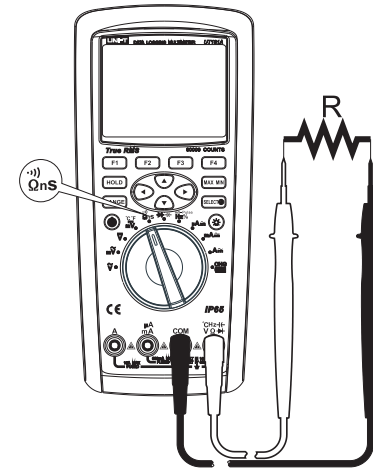

Figure 8
- 2) Set the rotary switch to the measurement Ω nS $\rightarrow$), and current Ω is the default resistance measurement as shown in Figure 8. Connect the test leads to both ends of the measured resistance.
- 2) Set the rotary switch to the measurement Ω_{ns} , press the key SELECT to select conductance measurement 60nS. Connect the test leads to both ends of the measured resistance as shown in Figure 8.
- 2) Set the rotary switch to the measurement Ω nS $\rightarrow$, press the key SELECT to select the continuity test $\rightarrow$. Connect the test leads to both ends of the measured resistance as shown in Figure 8. Press the function key MENU (Menu) to enter the menu items. If pressing the key SHORT (Menu), then the buzzer selects